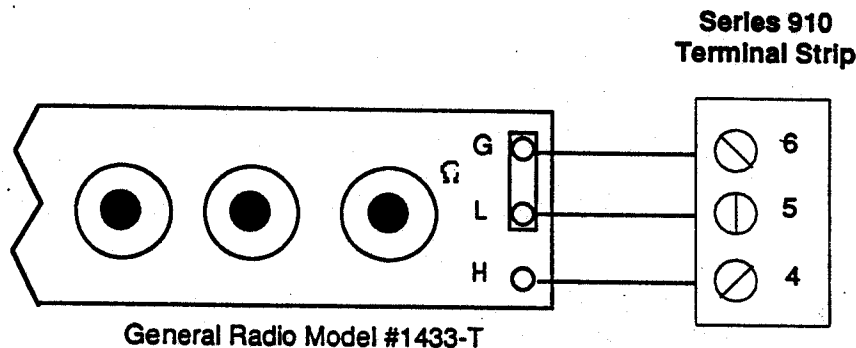

Figure 29 -
2. Connect the precision decade box to #4, #5, and #6 as shown in Figure 29.